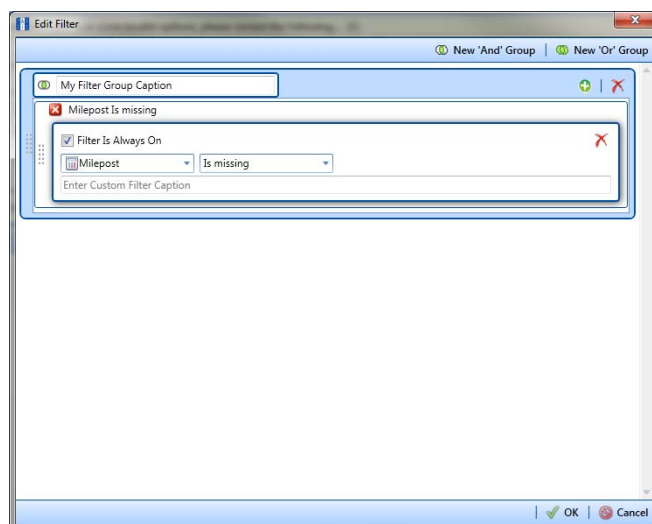

Figure 10-37. New 'And' Filter Group
- a** Click  **New 'And' Group** to open the filter properties group box (Figure 10-37).